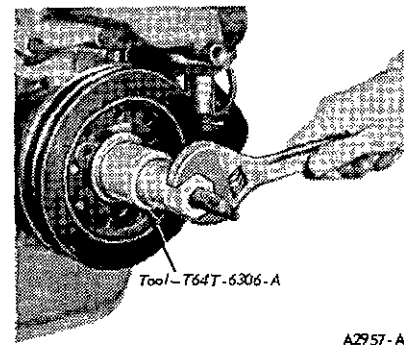

FIG. 48 Installing Crankshaft Vibration Damper
10. Position crankshaft damper Woodruff key and install crankshaft damper (Figure 48). Install damper attaching screws and washer. Tighten to specification.